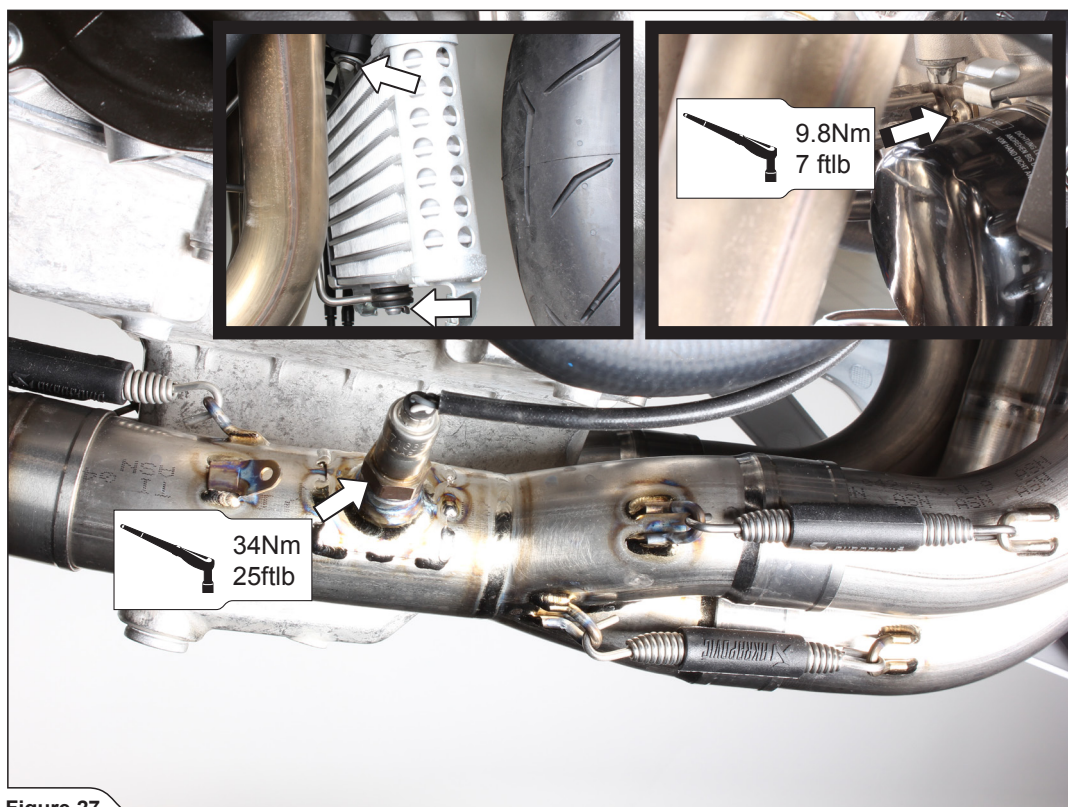

Figure 27
5. Tighten both lambda sensors into the collectors and reinstall radiator bracket in the reverse order from the order in which they were removed (Figure 27).